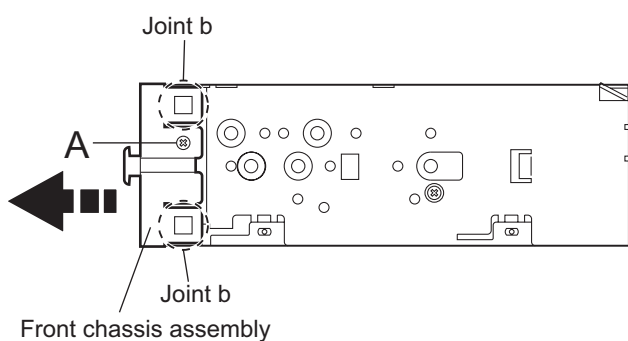

Fig.3
2.2.2 Removing the connector board (See Figs.3 to 5)